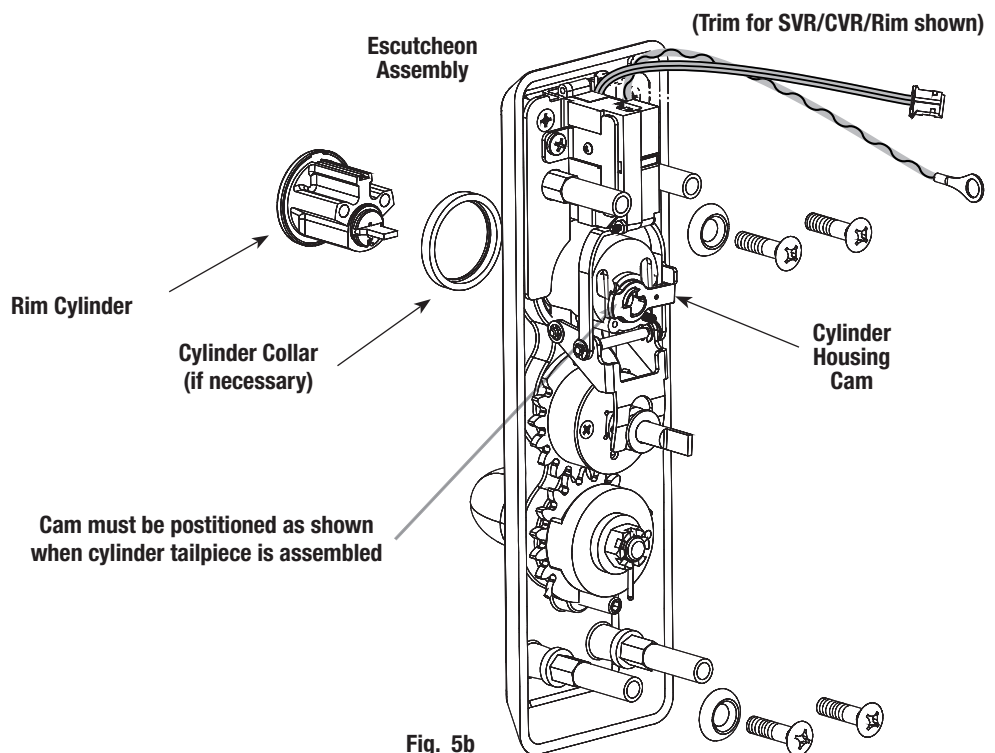

Fig. 5b
- d. Escutcheon Assembly (Fig. 5b):